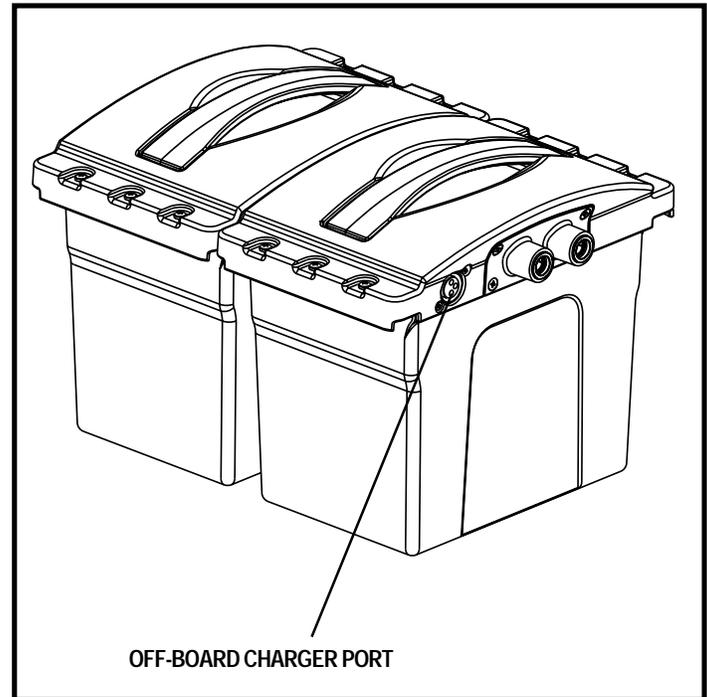

Figure 24. Battery Boxes (Removed from Power Base)
**NOTE:** *You can remove both battery boxes from the power base and charge them using the off-board charger port located on the front battery box. The battery boxes must be connected in order to charge them. See figure 24.*